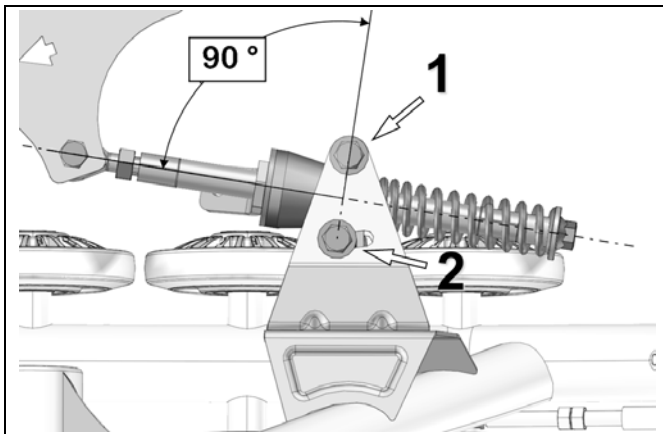

Figure 17
- Position the anti-rotation retainer at 90° (perpendicular) with the stabilizing rod. Tighten the two anti-rotation bracket mounting bolts (1 and 2) to 50 N•m of torque. Refer to Figure 17.